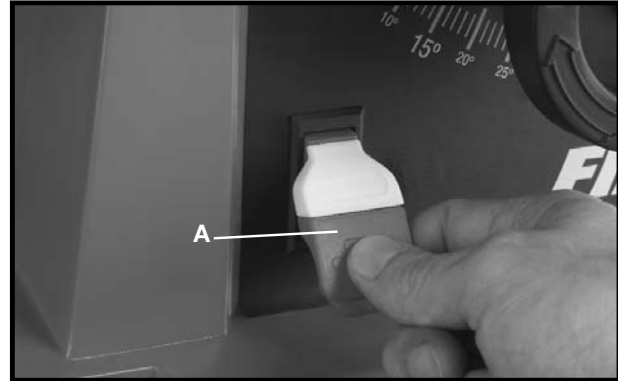

Fig. 34
The on/off switch (A) Fig. 34 is located on the front of the saw cabinet. To turn the saw “ON”, move the switch (A) up to the “ON” position. To turn the saw “OFF”, move the switch (A) down to the “OFF” position.